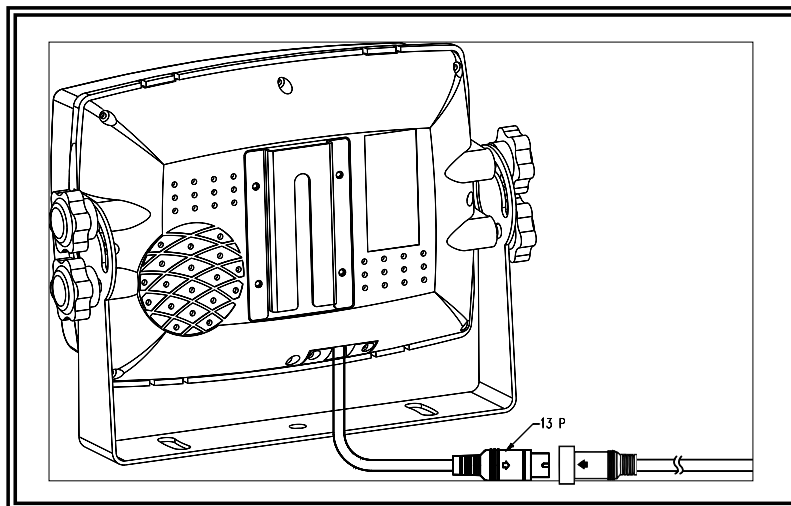

Figure 5
3. Put on the sun-visor and connect the monitor with the AV and power supply conversion cable (Figure 5)